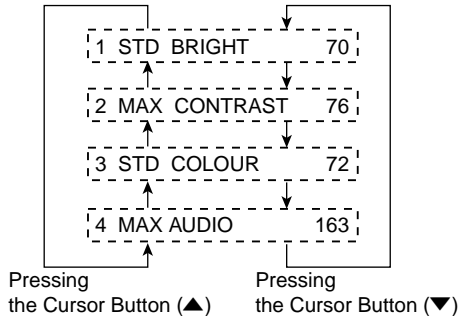

Fig. 3-5
- The item of the SUB MENU changes as shown in Fig. 3-5